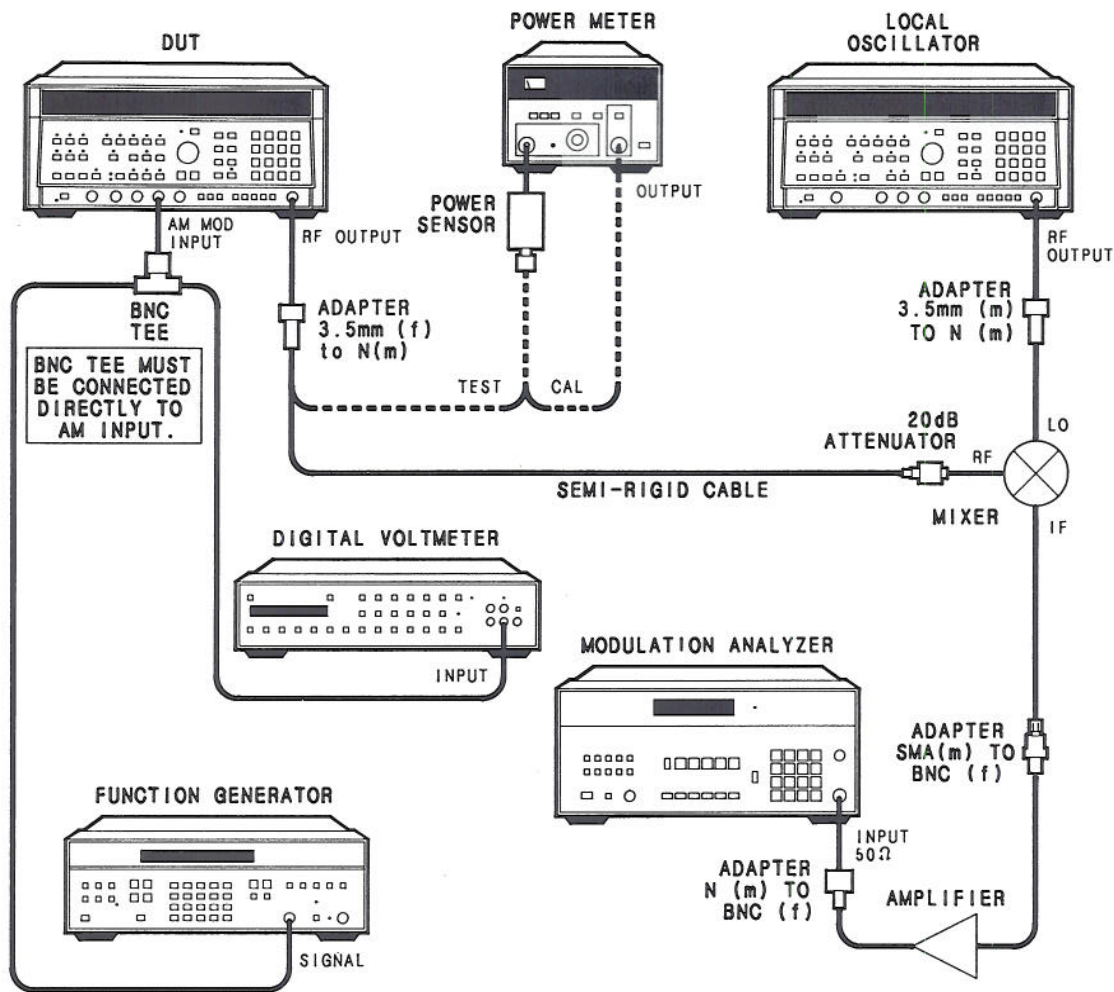

Figure 4-19. Amplitude Modulation Test Setup
1. Connect equipment as shown in Figure 4-19. Connect the mixer LO port at the LO's RF output. Connect the power sensor to the power meter. Allow a one hour warm up time. Set the power meter's calibration factor switch to include 1.5 GHz, then zero and calibrate the power meter. Connect the power sensor to the DUT's RF output.